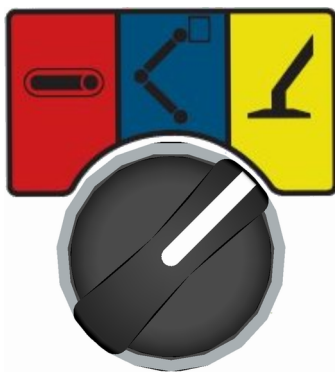

Fig. 136: Outrigger function
9. → Set toggle switch (Fig. 136) on control panel to the outrigger function (yellow).